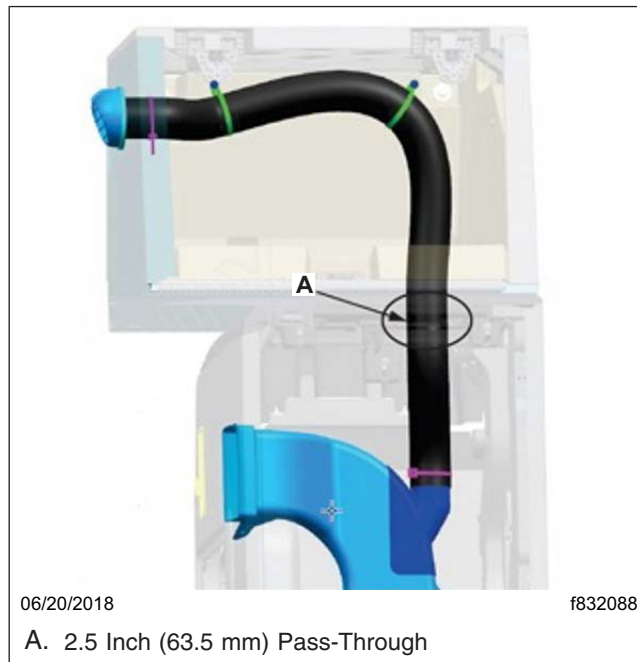

Fig. 10, Installing the Flex Ducting
9. Install the flex ducting using cable ties. See Fig. 10. Trim the flex ducting, as required.